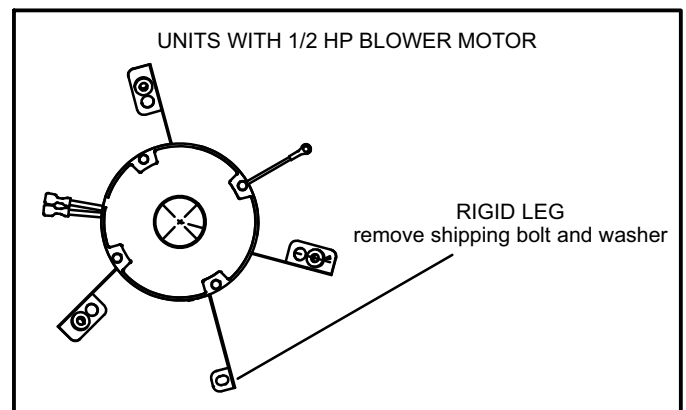

FIGURE 11
*NOTE - Units with 1/2 hp blower motors are equipped with three flexible legs and one rigid leg. See figure 11. The rigid leg is equipped with a shipping bolt and a flat white plastic washer (rather than the rubber mounting grommet used with a flexible mounting leg). **The bolt and washer must be removed before the furnace is placed into operation.** After the bolt and washer have been removed, the rigid leg will not touch the blower housing.*